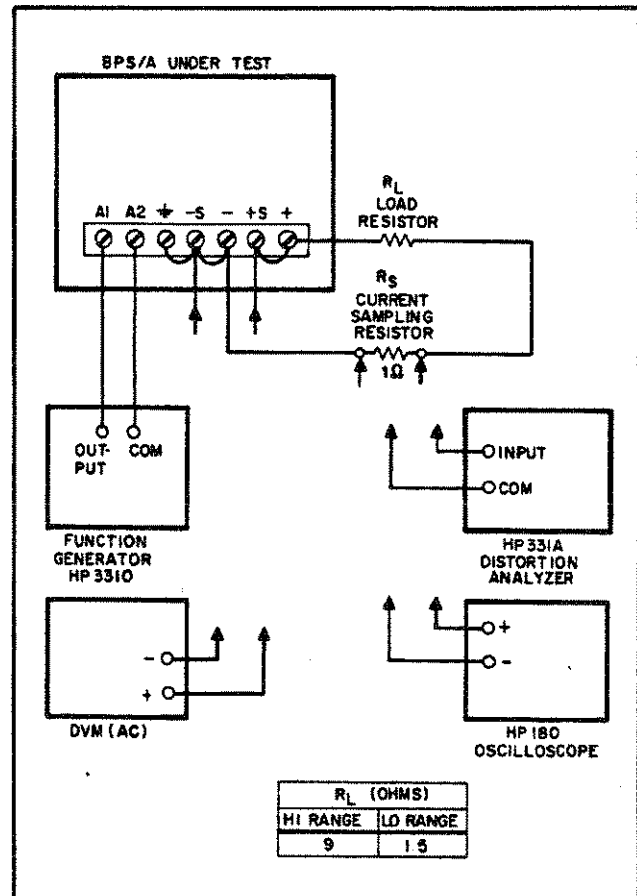

Figure 5-16. Amplifier Mode Test Setup
- Connect a clip lead from base of A3Q1 to ground ②
- Connect the test setup as shown in Figure 5-16. Use the appropriate low range load resistor ( $R_L$ ).
- a. Connect the test setup as shown in Figure 5-16.